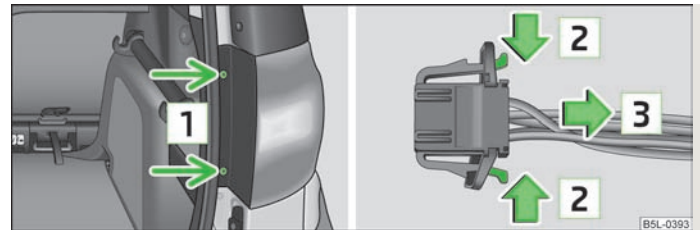

Fig. 173 Removing the tail light assembly/disconnecting the plug connection
- › Unscrew the light using the Torx key from the car tool kit. The shorter side of the wrench is used for loosening the screws **1** » Fig. 173 and the longer side for screwing them out completely.
- › Disconnect the plug connection by pressing the catches in direction of arrow **2** » Fig. 173 and by pulling them in direction of arrow **3**.
- › Screw the light with the screws **1** » Fig. 173 into place.